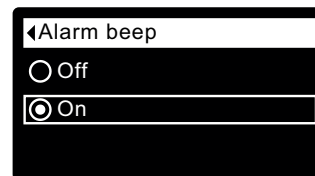

FIG. 58
5. Press the SELECT (O) button to display the Alarm beep screen (See Figure 58).